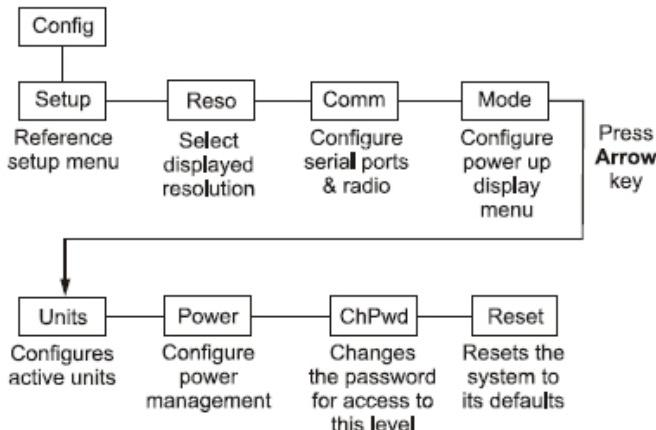

Figure 1.1 Configuration menu
To get to the Configuration Menu shown in Figure 1.1, follow these steps:
2. The default password is **0** (zero). Use the **Num** keys to enter the password and press the **Enter** key when done... The keys shown in Figure 1.1 appear.